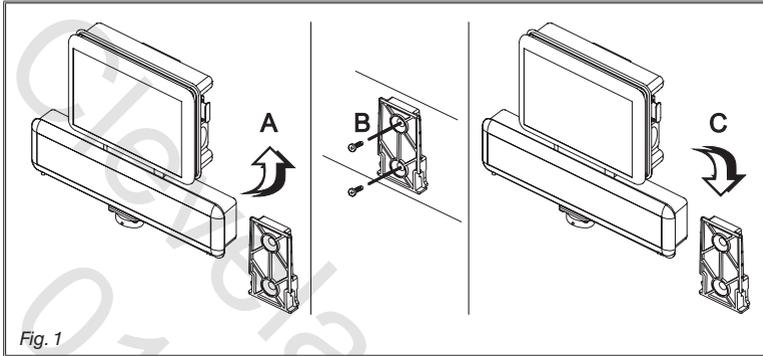

Fig. 1
The bracket must be extracted from its seat on the monitor (A, Fig. 1) and installed using the provided bolts (B).